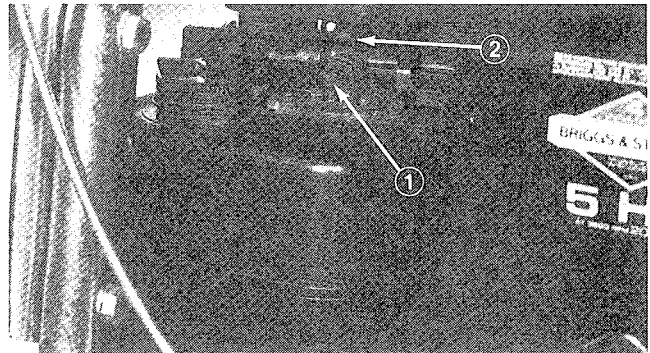

Figure 23
1. Needle Valve — Close valve by gently rotating it clockwise (Fig. 23).
**Note:** Rotate idle adjusting screw clockwise to increase idle rpm. By contrast, rotate idle adjusting screw counterclockwise to decrease idle rpm (Fig. 23).